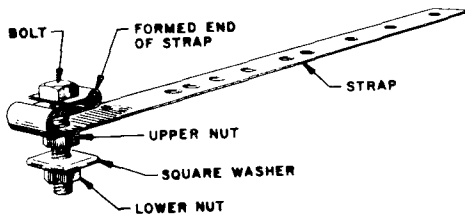

Fig. 42—L Ground Clamp
6.20 The L ground clamp (Fig. 42) is used to terminate No. 6 ground wire. It is installed as follows: